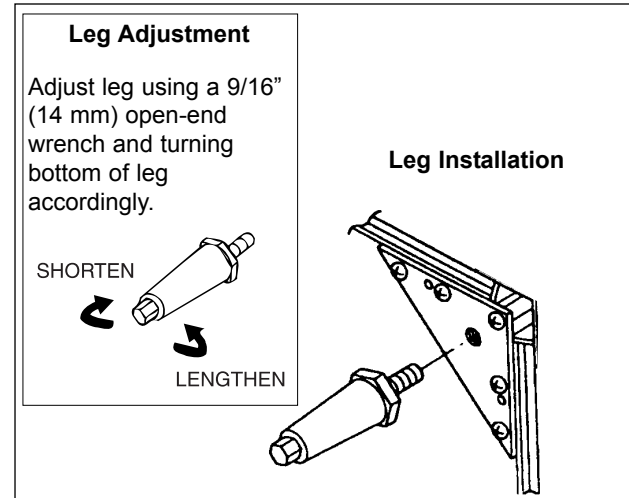

Figure 8. Adjustable Legs
3. Carefully lay unit on its side (requires 2 people). Install legs to bottom of unit as shown in Figure 8. Hand tighten legs until snug. Do not overtighten. Return unit to the upright position.
4. Carefully lay unit on its side (requires 2 people). Install legs to bottom of unit as shown in Figure 8. Hand tighten legs until snug. Do not overtighten. Return unit to the upright position.